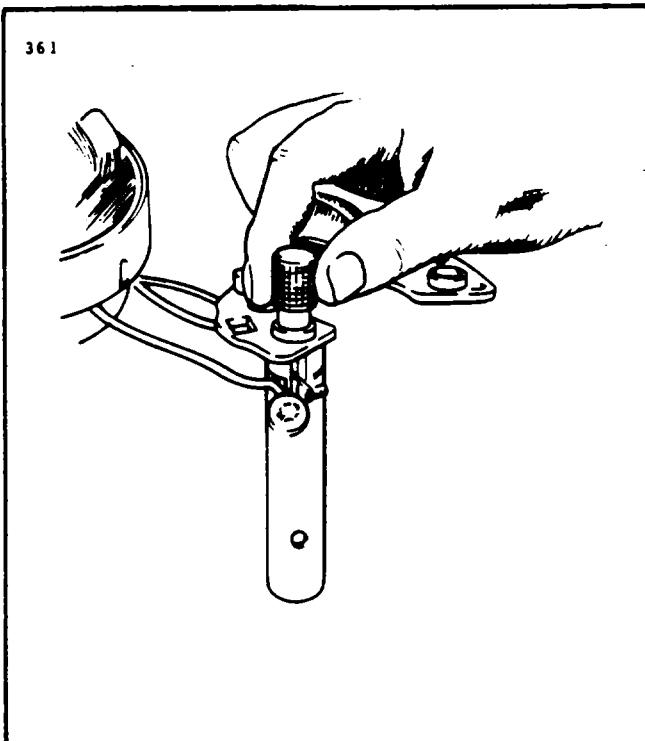
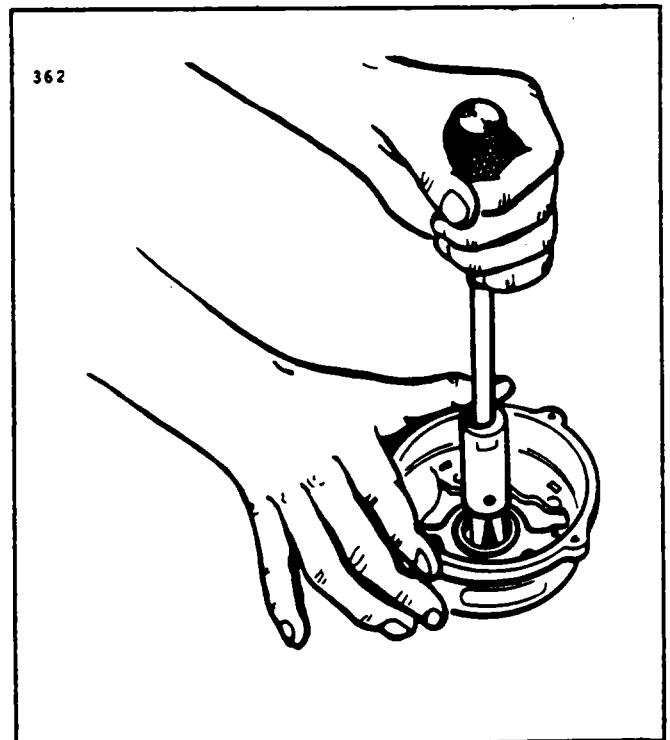

Figure 24-5. Removal of Rectifier
Figure 24-6. Removal of Slip Ring End Bearing
6. To remove the drive end head from the rotor shaft, use a puller that grips on the bearing retainer plate as shown in Figure 24-5. Do not attempt to remove by supporting the end head and pressing on the shaft, as this may result in distortion of the end head or stripping of the retainer plate screws. Remove the three retainer plate screws and press the bearing out of the end head. (Refer to Figure 24-6.)